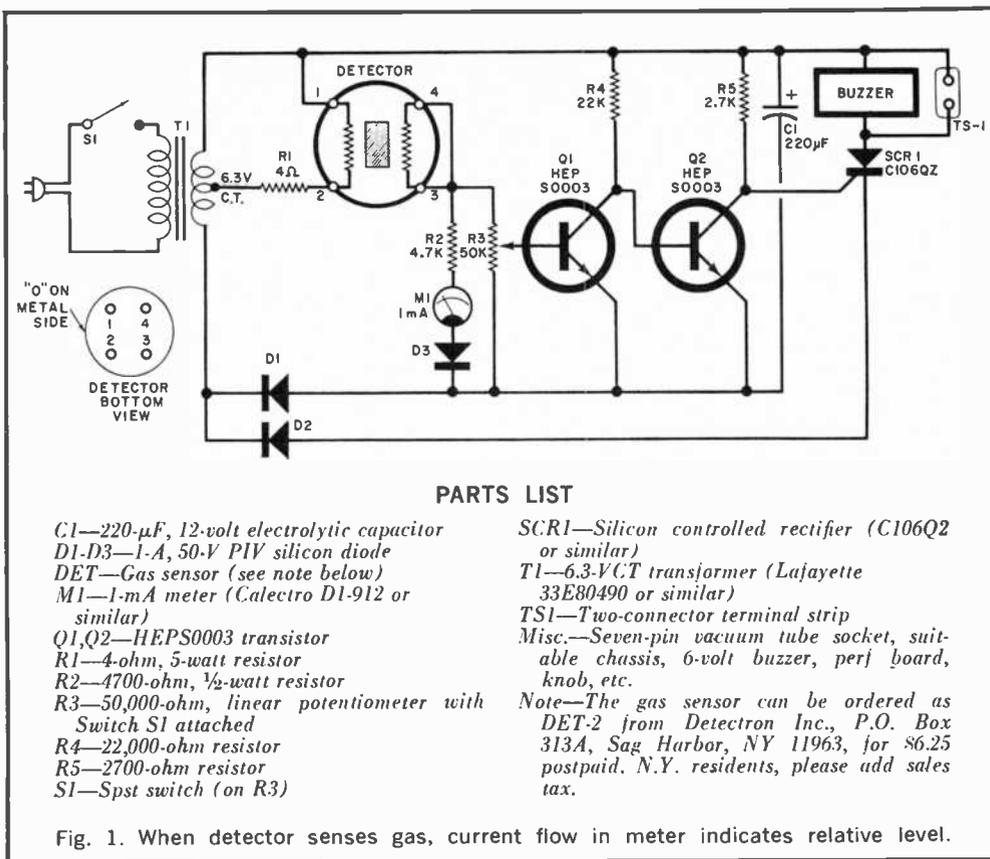

Fig. 1. When detector senses gas, current flow in meter indicates relative level.
**How It Works.** The actual detector (*DET*) is an n-type semiconductor of tin dioxide, heated by a platinum wire. (Fig. 1.) In the presence of a gas, the difference in electron